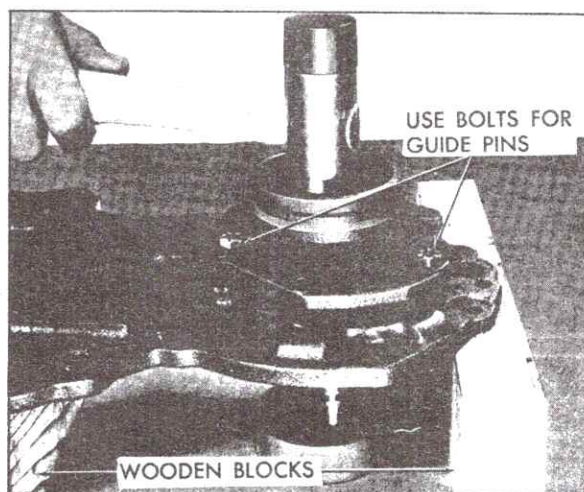

Fig. 7-156 Installing Driven Sprocket Support
g. Install drive sprocket support housing into pump cover plate by using a plastic mallet to seat the housing. Use bolts for guides, Fig. 7-156.